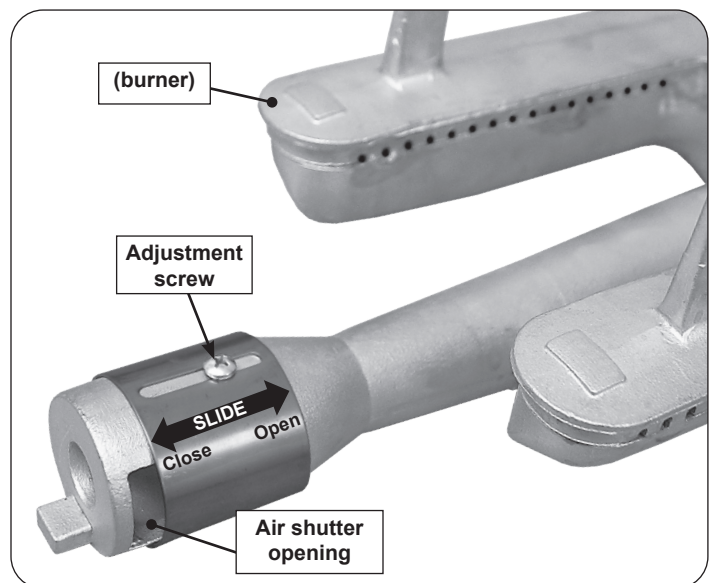

Fig. 48-2 Main burner air shutter adjustment detail
1. To adjust the air shutter, loosen the adjustment screw with a Phillips screwdriver. Then slide the shutter to open or close it. See Fig. 48-2 for details.